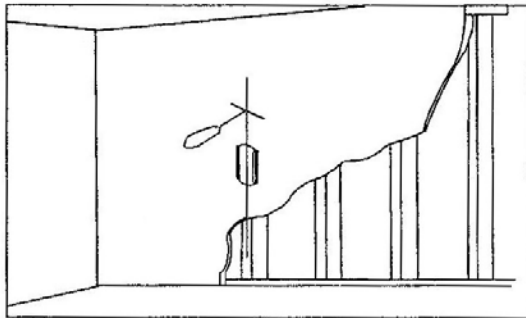

Fig 2b
Use a pencil to mark where the screws are to be located, as shown as fig.2b. The distance between screws for fixing the wall mount must no be less than 30cm. Pre-drill these holes with a 5mm drill bit to at least 40mm. Please make sure these holes are level and located on stud centres. Use the mount as a template to mark the location of the other three holes and drill the same holes. Fix the wall mount to the wall with 4 long screw (H) and washers (J).